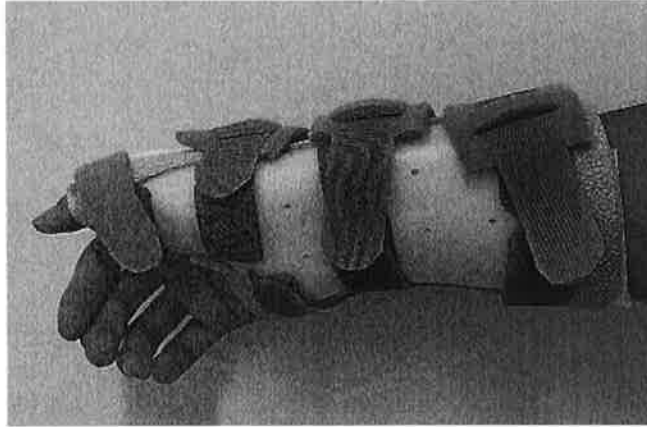

FIGURE Q3b
- c. Polymer-based splint casting (as shown in **FIGURE Q3b**) involves utilizing properties like heating, softening, molding, cooling, and solidification. Select a suitable polymer for the splint casting process and design. Justify the softening and molding mechanisms employed in splint casting.